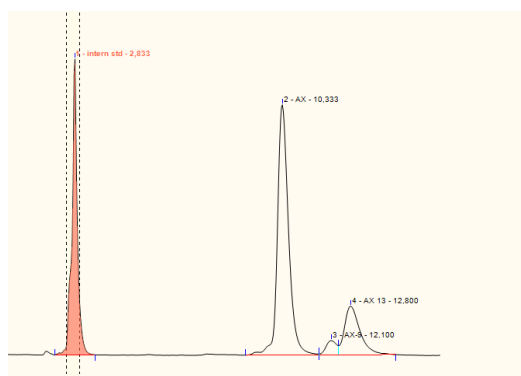

Figure 1: Chromatogram showing the separation of the internal standard and the isomers of astaxanthin
- Open the “interactive results” and check that the peaks for All E-AX, 9Z-AX and 13Z-AX is correctly identified (see figure 1).